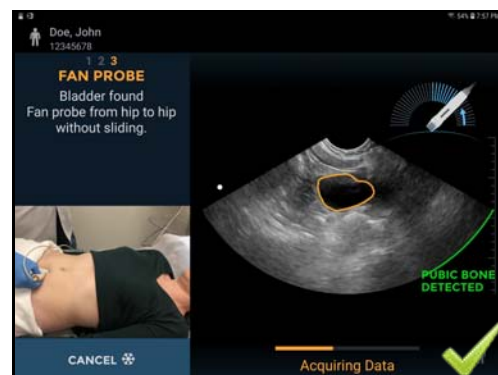

Fig 3.7 Maintain Consistent Pace
- Maintain consistent pace and pressure during the scan (Fig 3.7).